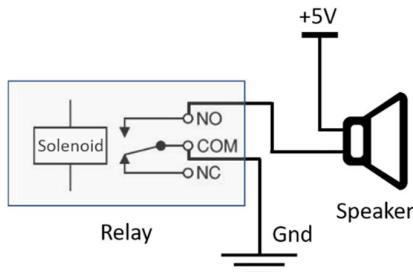

Figure 9.3: Circuit diagram to connect speaker.
- 1) Connect a speaker as shown in Figure 9.3.